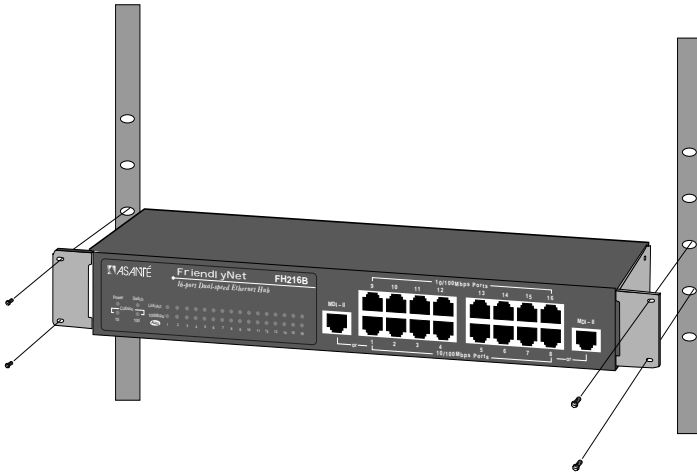

Figure 2-11 Rack Mounting
- 1** Align the mounting brackets on the sides of the unit with the slit over the holes as shown in Figure 2-11.